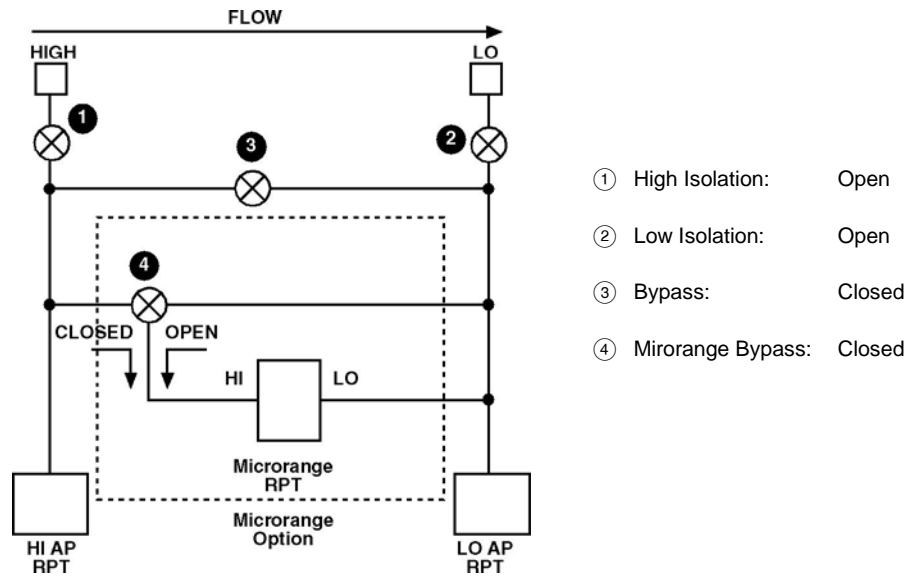

Figure 16. molbox RFM
- ❶ Set the molbox RFM on a stable surface near the calibration standard. Consider the connections that need to be made to the molbox RFM rear panel pressure quick connectors and access to the front panel display and keypad.
- ❷ Connect the calibration standard output to the molbox RFM rear panel UP (HI) port. In the run calibration mode (see Section 5.2.4.1), the microrange differential RPT high side is connected to the UP (HI) port and the low side is connected to the DOWN (LO) port (see **Figure 16**). Open the DOWN (LO) port to atmosphere by installing the accessory quick connector. If the calibration standard has a “low”, “minus” or “reference” port, consider connecting it to the molbox RFM DOWN (LO) port to assure that the calibration standard and molbox RFM are at the same ambient pressure. Use a quick connector stem (Fluke P/N 3068652), equivalent to Swagelok SS-QM2-S-200) supplied in the molbox RFM accessories to make the connection. The fitting on the quick connector stem that must be mated to is a compression type for 1/8 in. tube.
Selecting <3micro> causes a warning message to appear concerning possible overpressure of the microrange RPT. To view the microrange RPT differential reading, the microrange bypass valve will be operated to connect the microrange RPT to the differential pressure (see **Figure 16**). If the differential pressure is too high, the microrange RPT may be overpressured and damaged (see Section 3.1.6). Be sure the differential pressure between the molbox RFM UP (HI) and DOWN (LO) ports does not exceed 13 kPa (2 psi), then press [ENTER] to proceed.